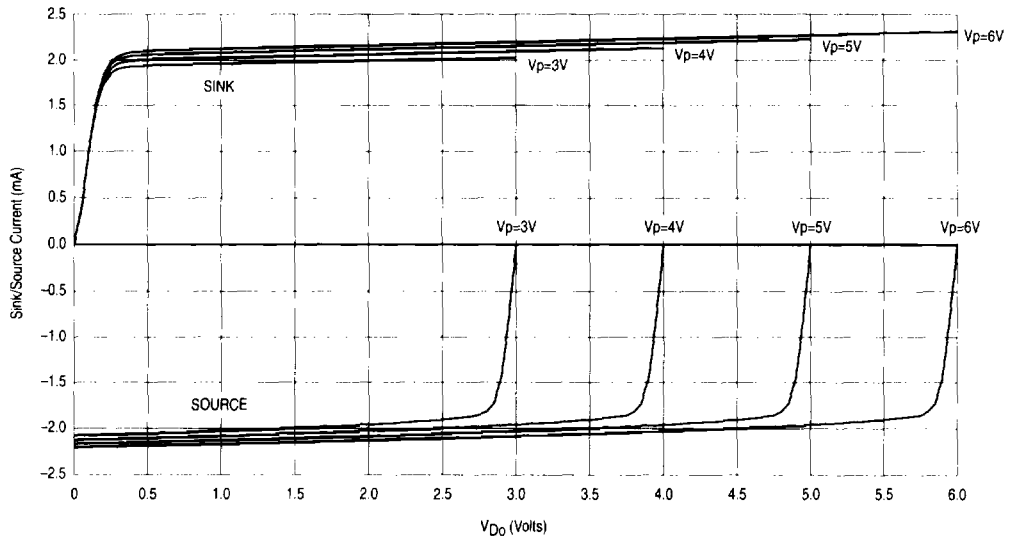

Figure 9. Typical MC12310 Charge Pump Sink and Source Current versus V_{D0}
6. Source current flows out of the pin and sink current flows into the pin, typical charge pump sink and source curves are found in Figure 9.